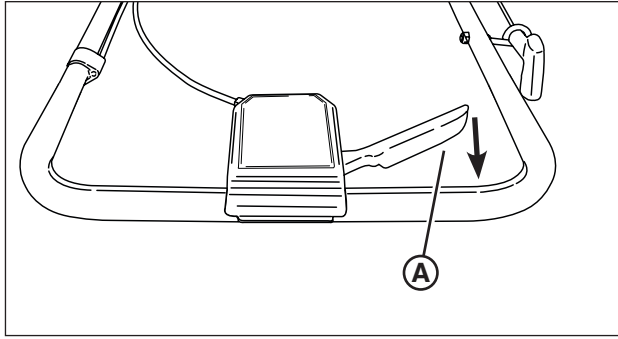

Figure 7: Propelling the mower
2. Begin squeezing the drive control (**A, Figure 7**) back toward the handle to engage the wheel drive and propel the mower forward. Forward speed can be increased by squeezing the drive control further back toward the handle.